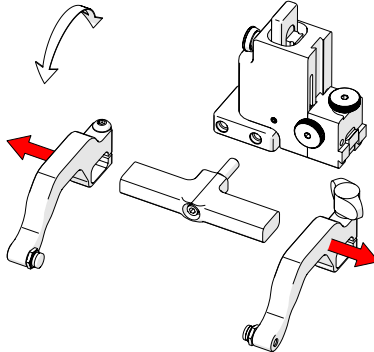

Fig. 129 - Remove probe holder arms
- 13.** Loosen the arm clamp screw and probe holder arm adjustment knob allowing removal of the probe holder arms (*Fig. 129*).